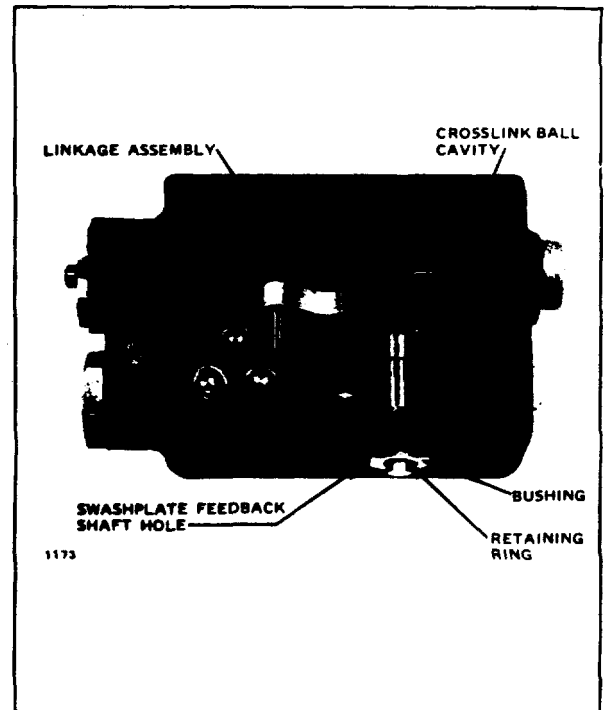

FIGURE 7. Location of pump ports.
- 1. Install a 300 psi gauge into the charge pressure gauge port on the pump. See Figure 7.